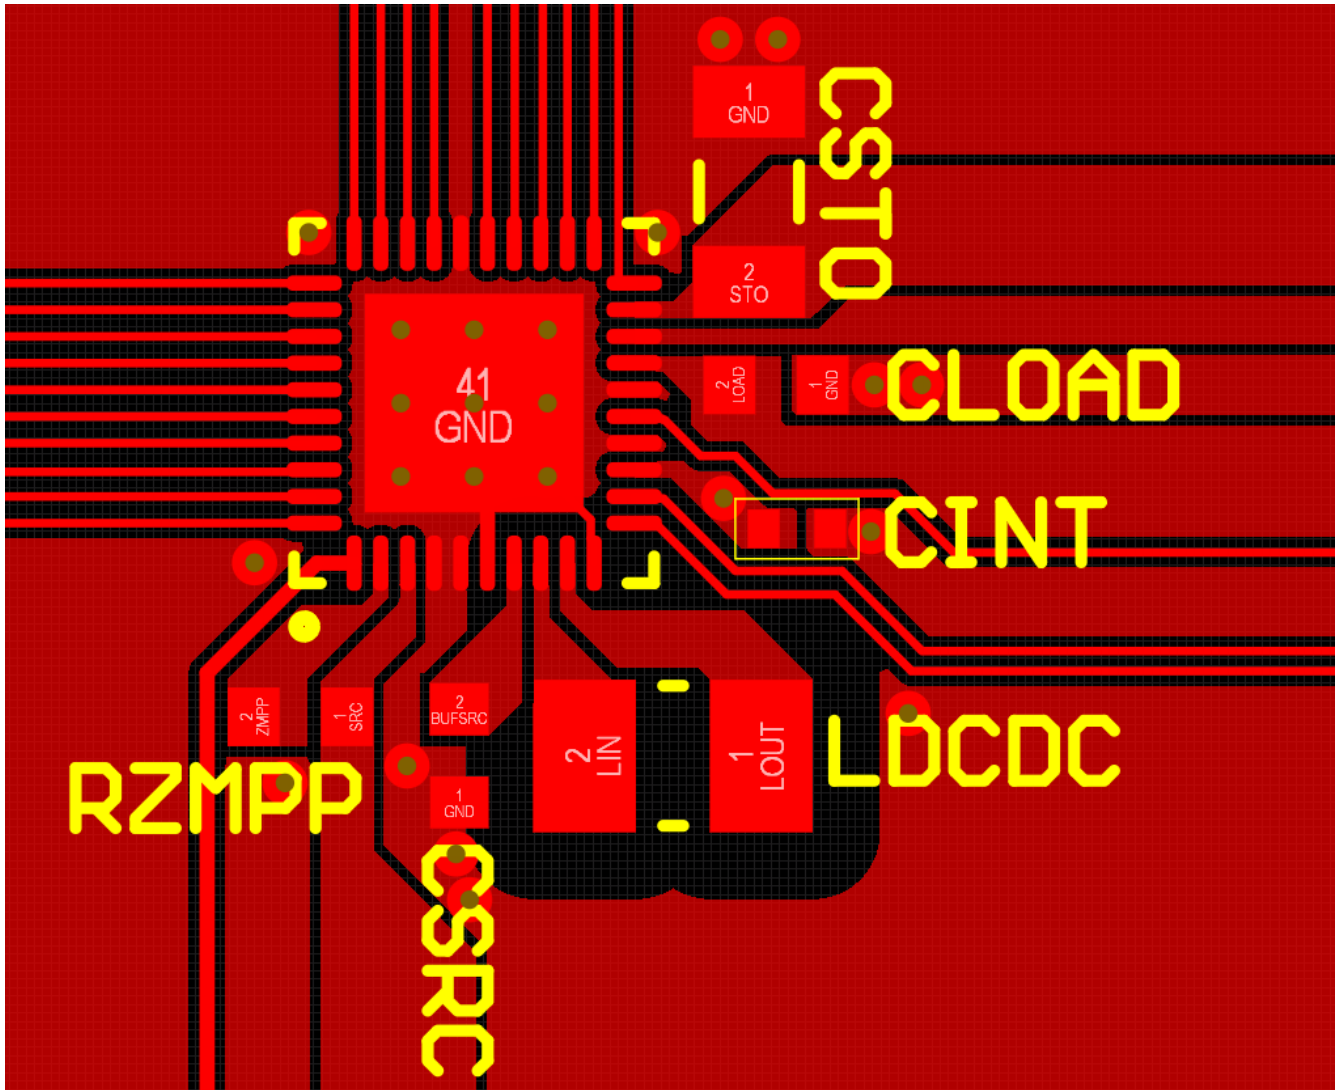

Figure 20: Layout Example for the AEM10330 and its Passive Components
- The switching nodes (LIN and LOUT) must be kept as short as possible, with minimal track resistance and minimal track capacitance. Low resistance is obtained by keeping track length as short as possible and track width as large as possible between L_{DCDC} and the AEM10330 pins. Minimal capacitance is obtained by keeping distance between LIN/LOUT and other signals. We recommend removing the ground plane, the power plane and the bottom layer ground pour under L_{DCDC} footprint, as well as adding distance between LIN/LOUT and the top ground pour, as shown on Figure 20.